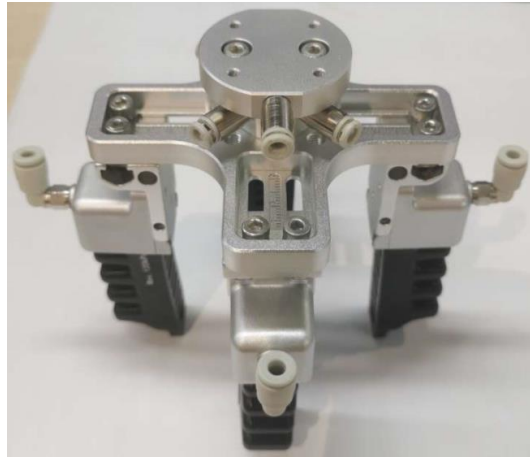

Figure 2.4 Install connection block
Step 4 Install the connection block to the top of Slide mounting plate-4S, as shown in Figure 2.4.